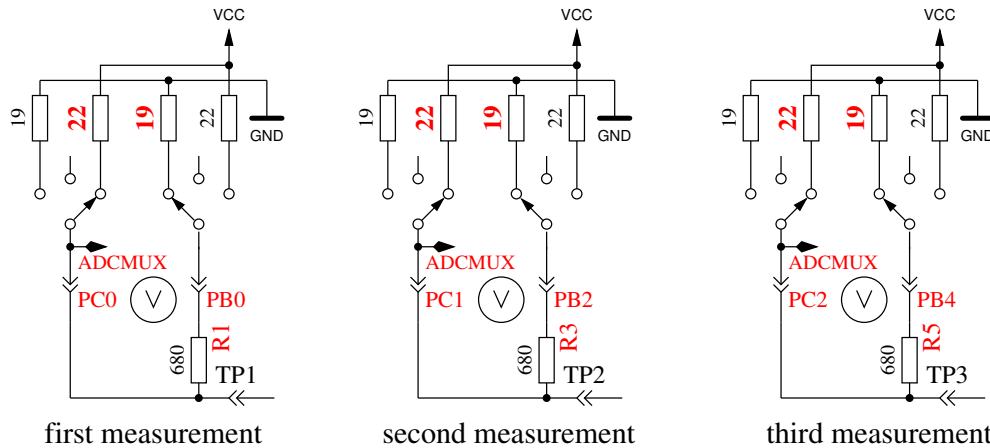

Figure 5.47: Measurement of internal resistance of Port C switched to VCC
9. **Measuring of internal resistance of port outputs switched to the VCC (+)signal.** The needed current is generated with to GND connected 680Ω resistors . It are the same measurements as those in test 8 to the other side as you can see in Figure 5.47. With the following steps the resistance is computed: To get the current, the following is computed: $(VCC - (resultoftest8) - (resultoftest9))/680$. To get both resistor values, the voltage (result of test 8 or 9) is divided by this current. The result for this test will then be notified in row 1 with the text "RI_Hi=", the resistance value (Ω) to the GND side is displayed in row 2 with the text "RI_Lo=". Beginning with version 1.06k of the software, the port output resistance